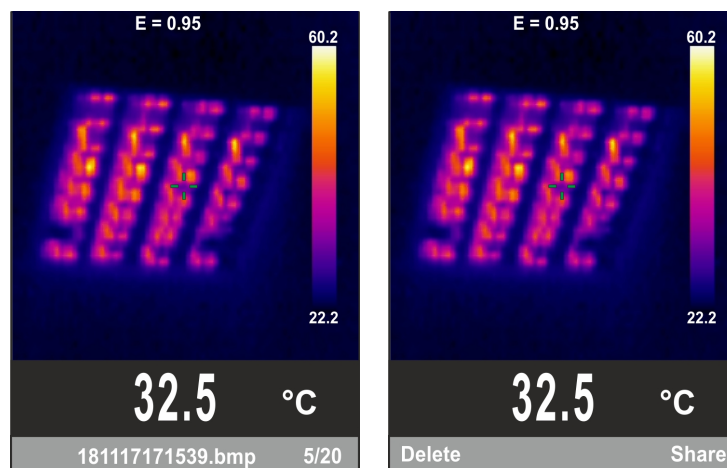

Fig. 17: Recalling and deleting IR images
10. Enter the General menu to display the saved result (see Fig. 17 – left side)
11. Press key **T** to enter the section to delete the image, see Fig. 17 – right side) and select option “Delete” to delete the image with no confirmation message, or press key **ESC** to go back to the measuring screen.